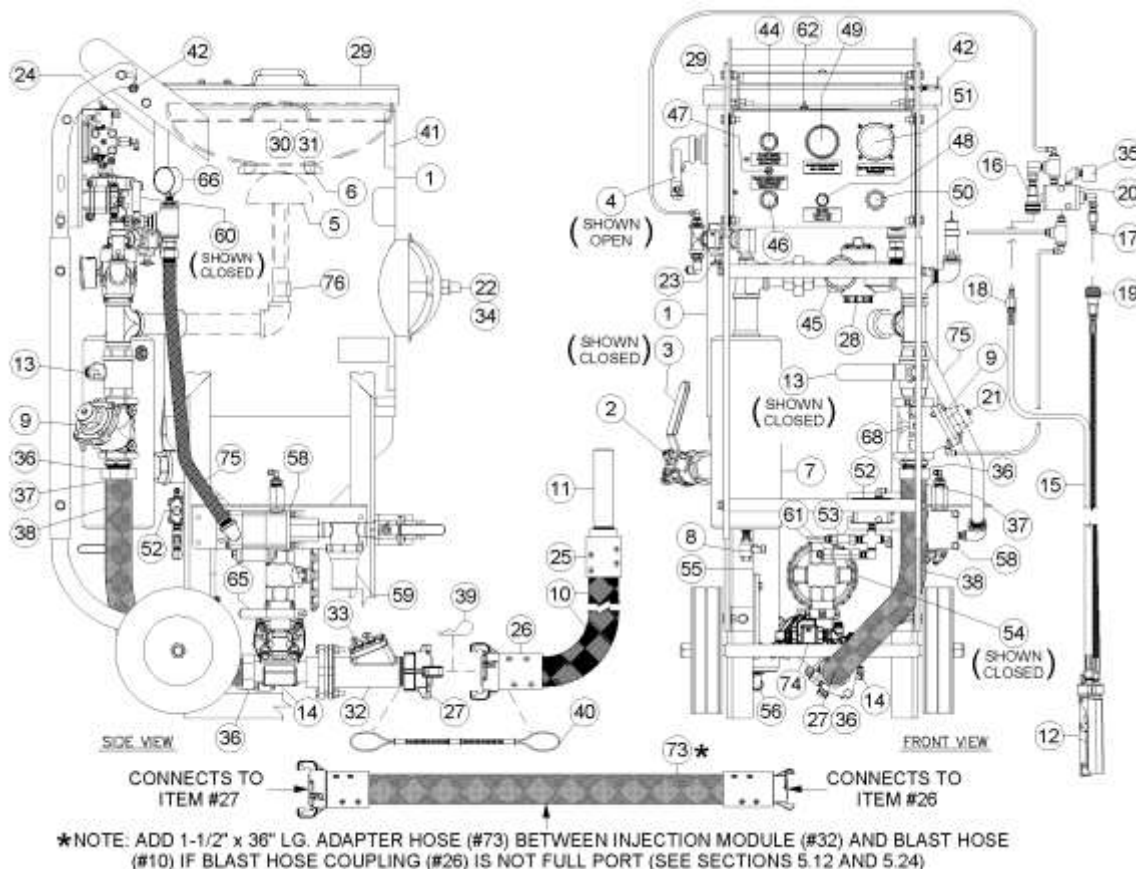

Figure 6.2 – AmphiBlast™ With Pneumatic Blast Controls
6.1 Abrasive Blaster Setup Procedure (see Figure 6.2)
- 6.2.1. Close the air inlet ball valve (#3). The ball valve is closed when the handle is fully turned to the position shown in Figure 6.2 (handle perpendicular to body). The handle tab will bottom against the ball valve body in the closed position.